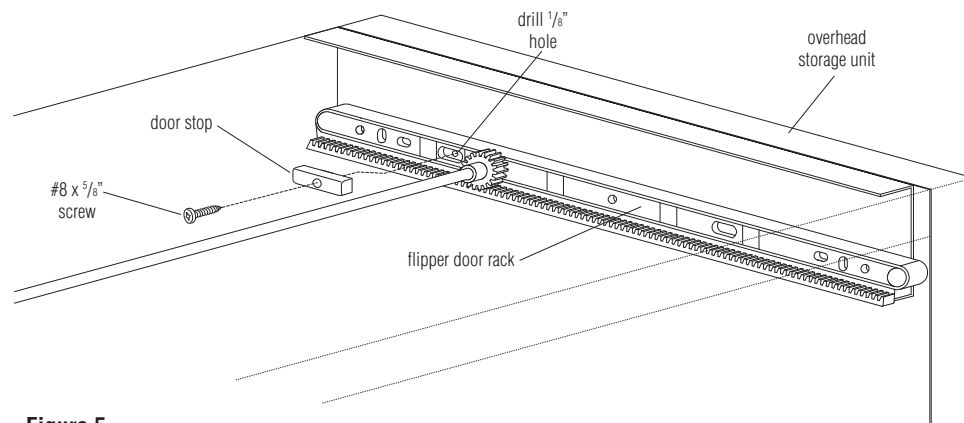

Figure 5
1. Roll Flipper door forward to gain access to area at back of flipper door rack as illustrated (Figure 5).
2. Using a power drill, bore a 1/8" hole into the storage unit inside, at the center of the oval opening of the rear of the flipper door rack (Figure 5).
3. Using a #8 x 5/16" screw provided, insert it through a door stop, then tighten the screw and door stop into the hole just drilled in the overhead storage unit (Figure 5).